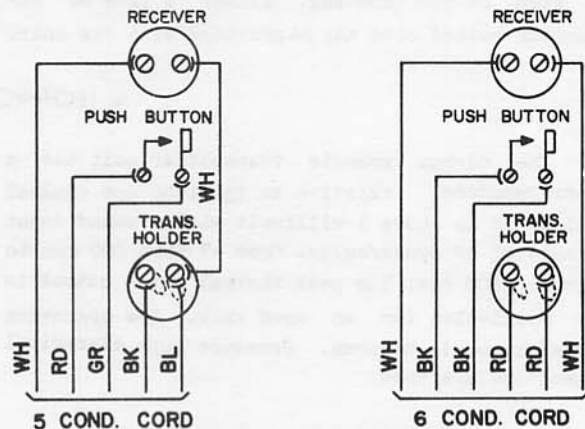

Fig. 4-2 WIRING DIAGRAMS
- a: The cord conductors must be reconnected as shown in the wiring diagrams of Fig. 4-2.